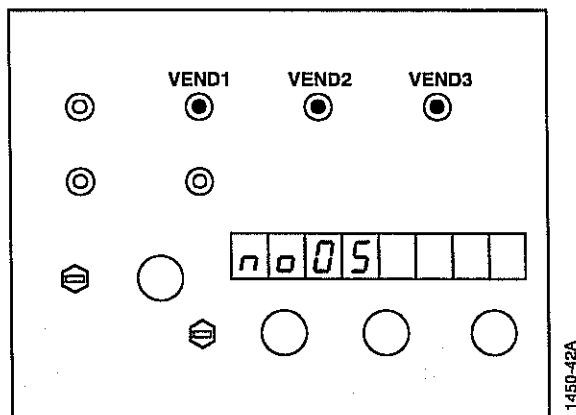

Figure 3-33. Test No. 05 Displays.
2. Make sure that **no. 05** is displayed on the LED display (see Figure 3-33).